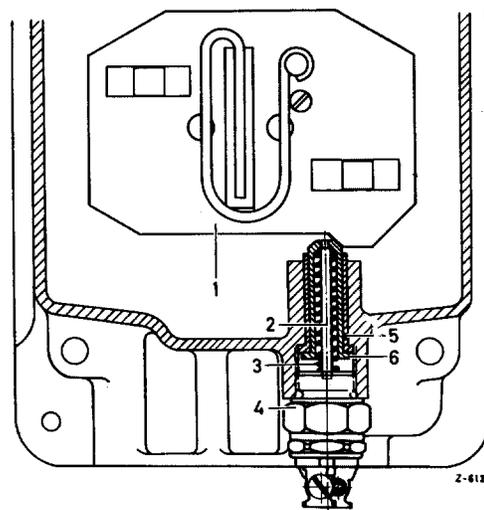

Fig. 26-4/5
8. Screw in the hexagon socket screw (8) together with lock washer (7) and tighten (see Fig. 26-4/4).
9. Install the guide plate. The plate must be easy to move. First install the washer and then the spring washer. Screw in the nuts and lock them by compressing their collars at the top (see Fig. 26-4/2).
**Note:** When installing the guide plate (1) make sure that the plate has a spring riveted to it (guide plates without spring are only used for transmissions with steering wheel shift system) (Fig. 26-4/5).
10. Install the bar (6) and the pressure spring (3) for the reverse gear stop as well as the pressure pin (2) for the reversing light switch in the transmission case cover and screw in the reversing light switch (4) (Fig. 26-4/5).